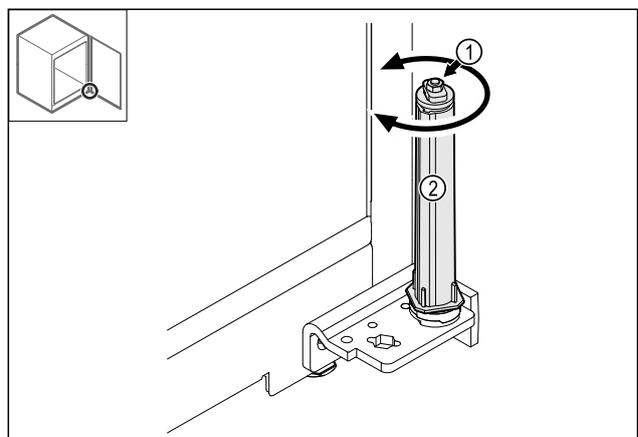

Fig. 39
- ▶ Do not dismantle the screw connection Fig. 39 (1) on the locking system.
- ▶ Turn the locking system Fig. 39 (2) until it clicks.